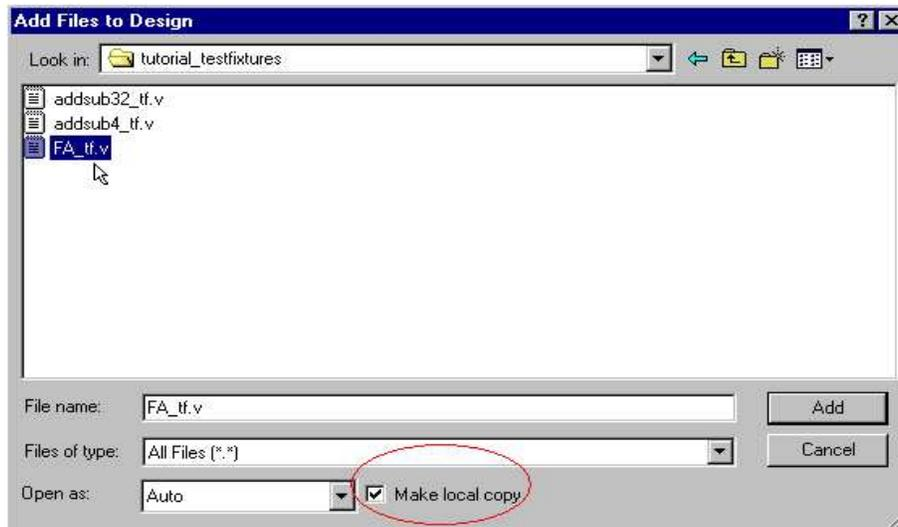

Figure 2
3. Navigate to the class folder, which contains these files, click the “Make local copy” box, and add the test fixture for the full adder (see Figure 2 on the following page). Notice it is added to the design hierarchy in the Design Browser. We use the naming convention: <design name>_tf.v to name test fixtures so that it is easy to associate test fixtures with the components they test. If you choose different names for your full adder and 4-bit adder/subtractor, make sure you rename these test fixtures by right-clicking the file in the Design Browser.